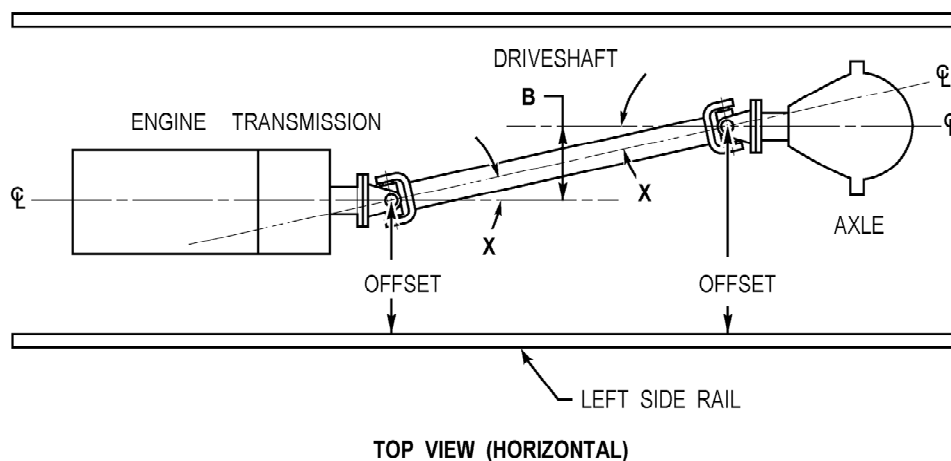

Figure K-25. Horizontal Offset
2. Measure the distance from the first universal joint to the string (Figure K-25).